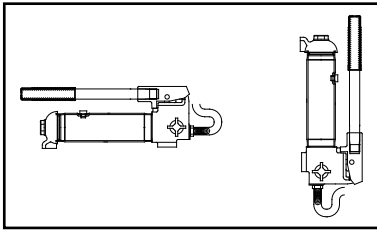

Figure 2 - Horizontal and Vertical orientations
1. Pump may be used in horizontal and vertical position as illustrated on figure 2 below.